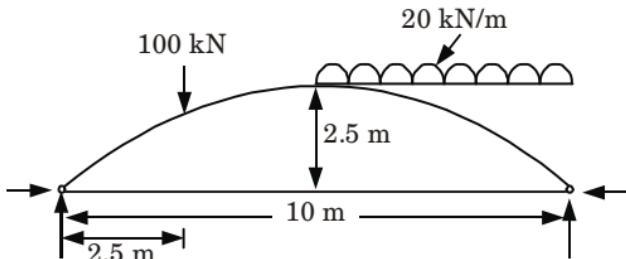

**Fig. 1.**
- a. Determine the forces in the members by method of joints. See Fig. 1.